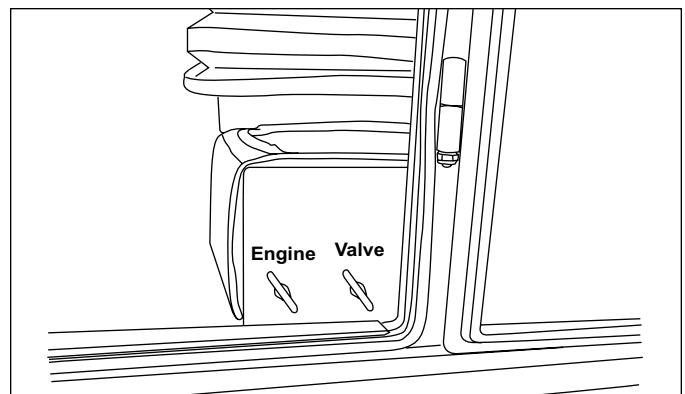
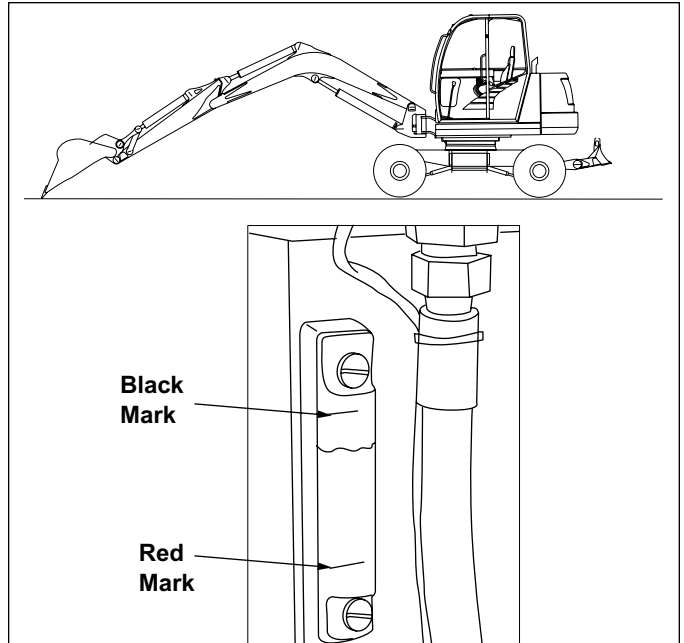

Figure 4-1. Engine Cover Latch Lever
Figure 4-12. Checking Hydraulic Oil Level
2. Pull the engine cover latch lever (Figure 4-1) and raise the engine cover.
1. The air cleaner is located under the hydraulic valve cover. Pull the valve cover latch lever (Figure 4-1) and raise the cover.
1. Pull the engine cover latch lever (Figure 4-1) and raise the engine cover.
The battery is located under the hydraulic valve cover. To access the battery, pull the cover latch lever (Figure 4-1) and open the cover.
2. Pull the hydraulic valve cover latch lever (Figure 4-1) and open the cover.
2. Fully extend the bucket and boom as shown (Figure 4-12). Lower bucket and dozer blade to the ground. Turn off the machine.
3. Pull the hydraulic valve cover latch lever (Figure 4-1) and open the cover to expose the hydraulic oil level indicator (Figure 4-12).
4. Check the hydraulic oil level indicator (Figure 4-12). Oil level should be between black and red marks on sight glass. If hydraulic oil is required, proceed to step 5.
7. Add hydraulic oil until oil level is between red and black marks on indicator (Figure 4-12).
2. Fully extend the bucket and boom. Lower bucket and dozer blade to the ground (Figure 4-12). Turn off the machine.
8. Fill tank with hydraulic oil until oil level is between red and black marks on indicator (Figure 4-12).